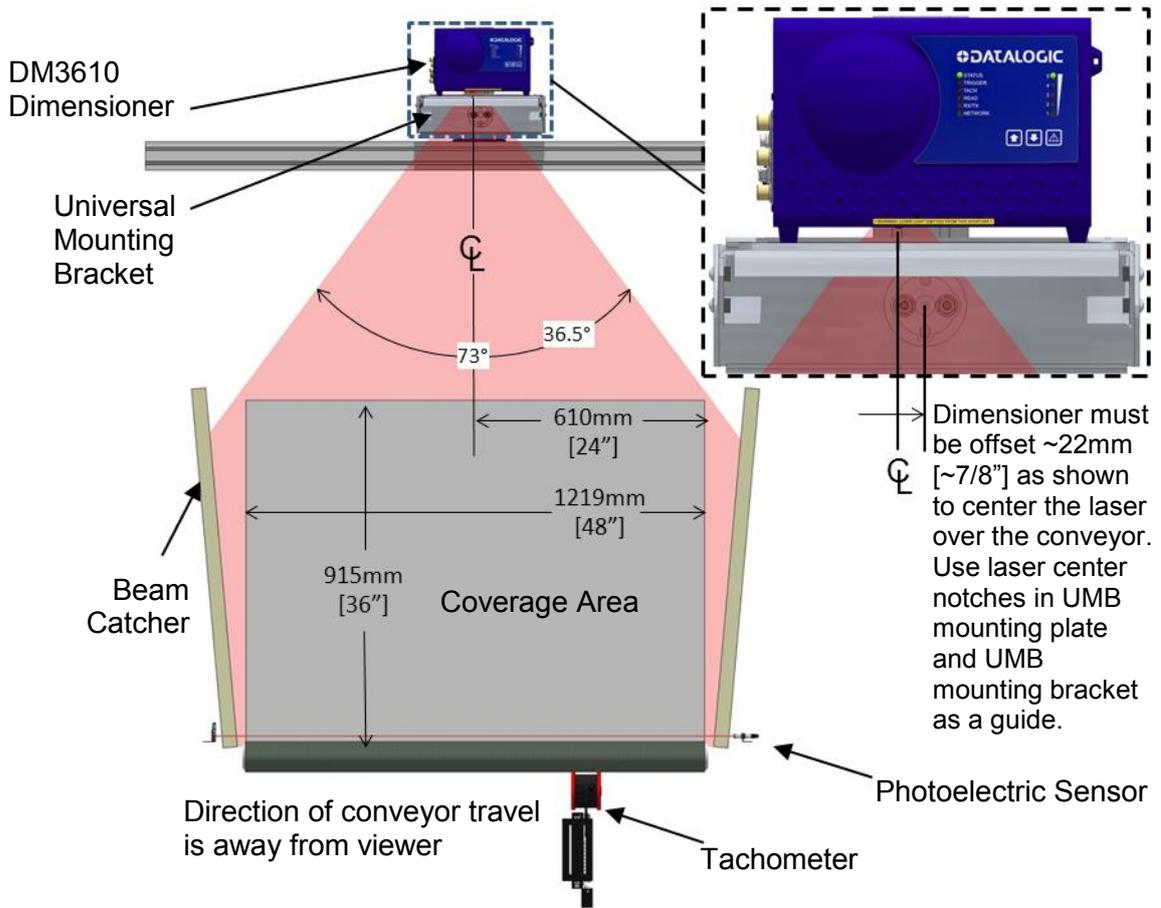

Figure 26: DM3610 Dimensioning System Installation – FRONT VIEW
**NOTE:** Depending on your specific installation, beam catchers may be needed to avoid false dimensioning data points (See *Figure 26*).